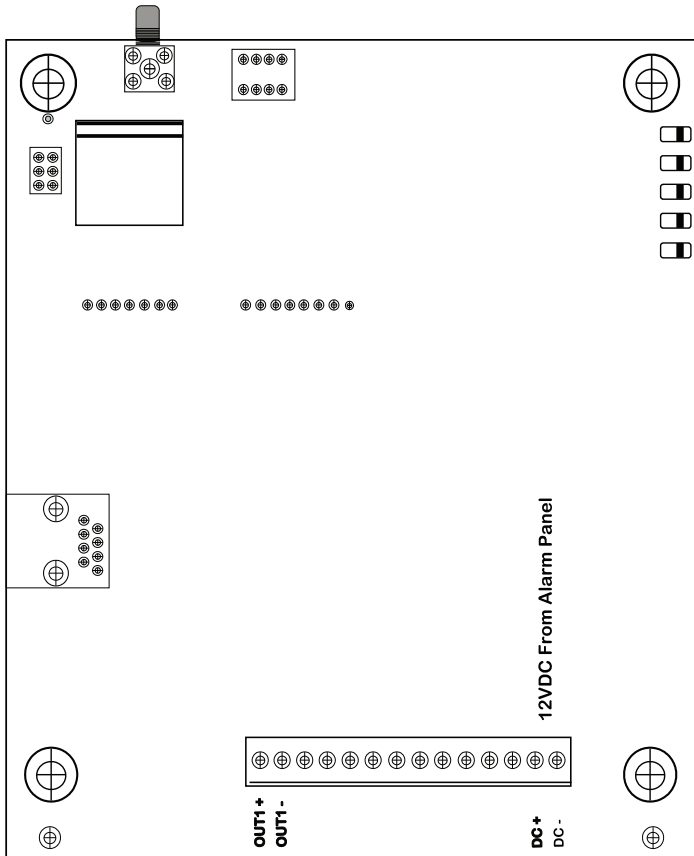

FIGURE 1: Model CDMA30 PC Board Details
3. Go to the red, 4-position Dipswitch as shown in Figure 1 and set the dipswitch as appropriate for this installation. (See Section 7B.)